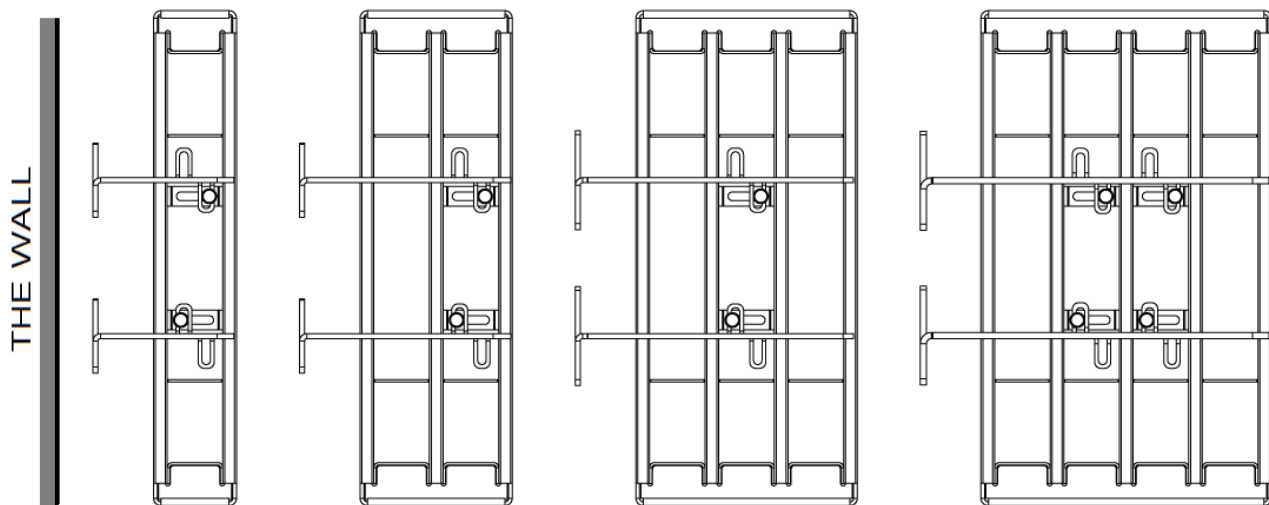

Fig. 2 Positioning of Lisa Hygien Brackets
1. All Lisa Hygien Brackets feature double-sided loop, for symmetrical positioning – use opposite loops on the opposite sides of radiator (see fig. 2),